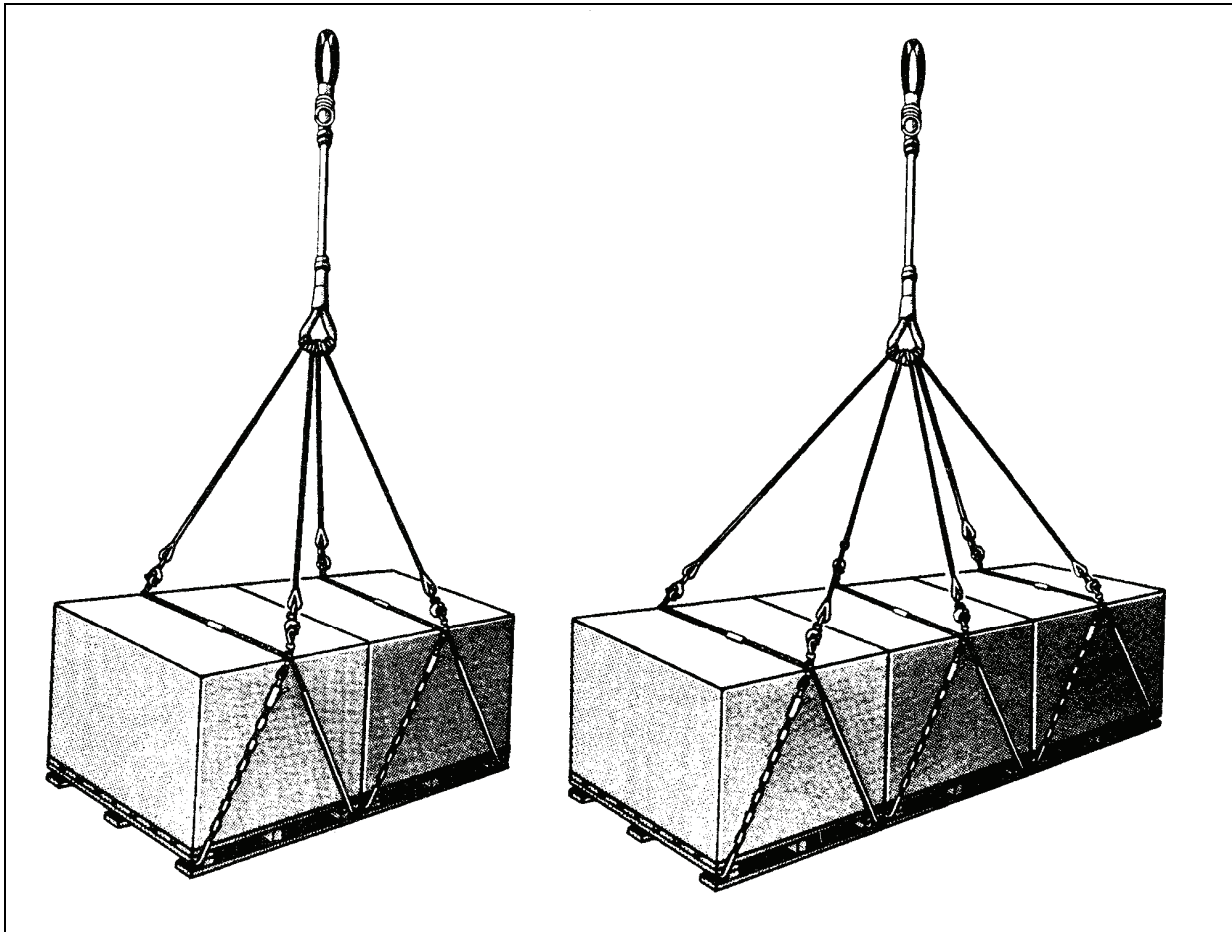

Figure 9-12. Hoisting Sling Mk105 with Two and Three Pallet Loads
- For loads with four attachment points, such as a cargotainer, use the Mk105 hoisting sling with four legs. When pairing loads (from two to six lifting points), use the Mk105 hoisting sling with a leg for each lifting point (Figure 9-12).
Note: Three loads of pallets may be returned in the same lift if there is sufficient clearance to lift the load clear of the flight deck. In this case, attach the hoisting sling (six sling legs) after the loads are spotted on the flight deck (Figure 9-12).